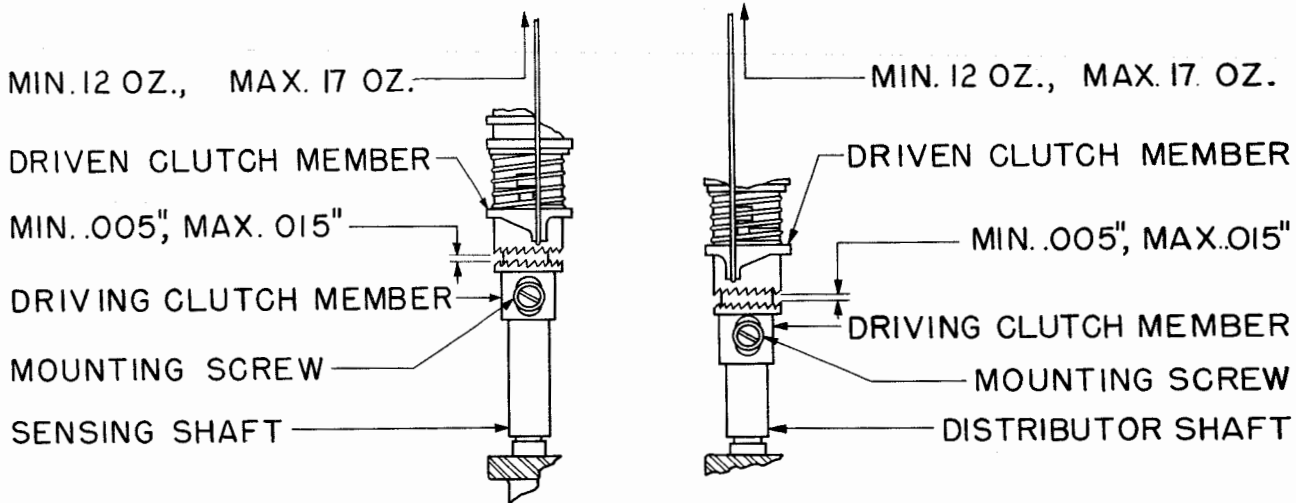

Figure 43
- 2.69 Sensing and Distributing Driving-clutch shall meet the following requirements: There shall be a clearance as indicated in Figure 43 between the teeth of the driving and driven clutch members.
- 2.72 Sensing and Distributing Clutch Spring: It shall require a pull as indicated in Figure 43 to just separate the teeth of either clutch,